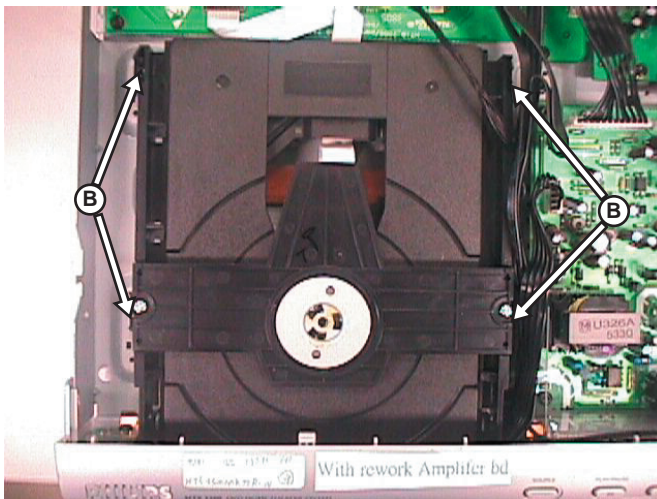

Figure 3-2
- 3) Loosen 4 screws B (See Figure 3-2) to remove the DVD Loader.